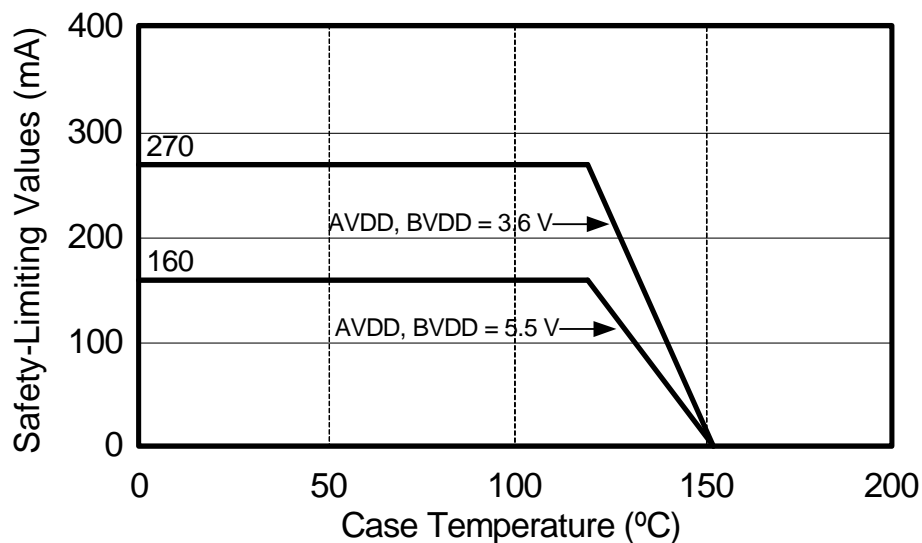

Figure 4. NB SOIC-8 Thermal Derating Curve, Dependence of Safety Limiting Values with Case Temperature per DIN EN 60747-5-2
1. Maximum value allowed in the event of a failure. Refer to the thermal derating curve in Figures 4, 5, and 6.